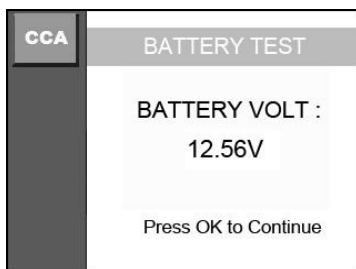

Figure 9.2
- Use the **UP/ DOWN** scroll button to select **BAT TEST** from main menu, the screen will show as below (Figure 9.2).